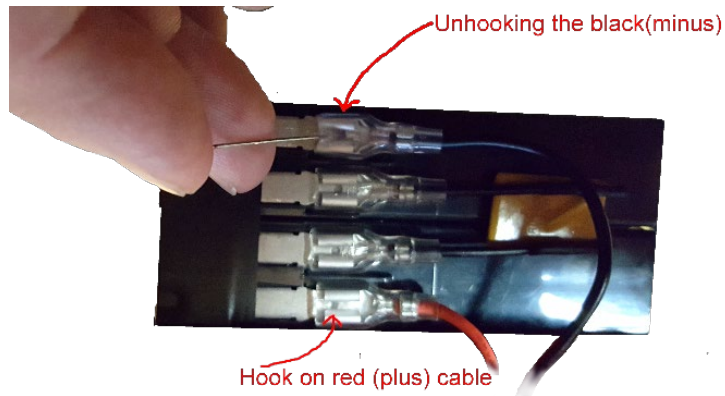

Figure 1. Unhooking the lock on black cable (minus) using a needle
1. Turn the control-box upside down so you are facing the REAC label. Unscrew the four fastening screws ③. Be sure to collect all four screws that should now be loose.
2. Turn the control-box around. Remove top cap ③. Make sure separating plate ② stays on the lower cap ①. Be careful not to damage the rubber sealing on the separating plate.
3. Detach the battery plugs. Start with the outmost black cable and then the inner red. Be careful not to damage the locking mechanism in the plugs (use a needle to unhook the lock see figure 1).
4. Inspect the rubber sealing for damage. If its damaged the separating plate ② must be replaced.
5. Replace the battery pack ④, same placement as the old battery. Make sure the plus pole is nearest the separating plate.
8. Make sure the battery is centered on the separating plate ②. Make sure cables are folded as near as possible to the batteries.
9. Mount the top cap ③ back on its place. Be careful not to damage the rubber seal or to squeeze any cables between the top cap ③ and the separating plate ②. The top cap should insert with little force and stay attached even without force (nothing pushing the parts apart).
10. Turn the control-box around and re-screw the fastening screws ⑤.